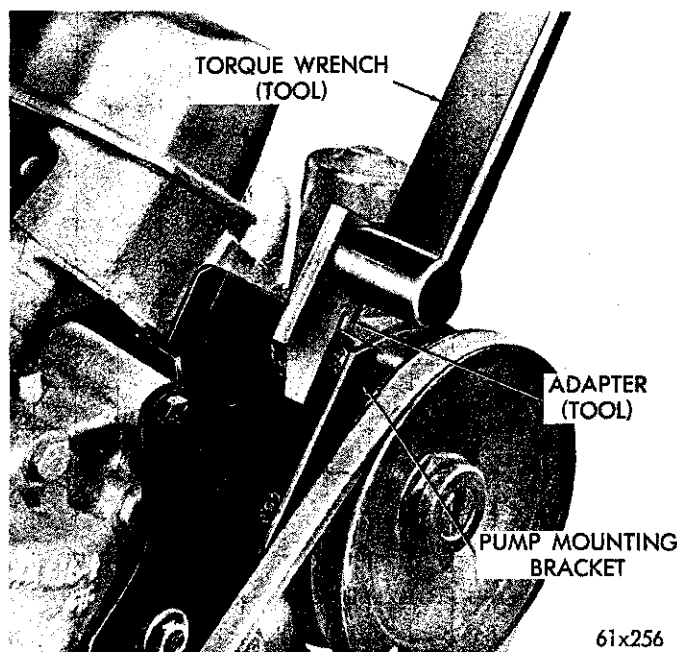

Fig. 22—Pump Belt Adjustment
(2) Install Tool C-3832 over the edge of the mounting bracket as close as possible to the outer edge of bracket and insert torque wrench drive in square hole of tool (Fig. 22).
(3) Tighten the pump belt until you get a reading of 45 foot-pounds on the torque wrench.
(4) While holding the tension with a torque wrench, tighten the bracket mounting bolt nuts enough to hold the adjustment, then use torque wrench to tighten the mounting bolts to 30 foot-pounds torque.